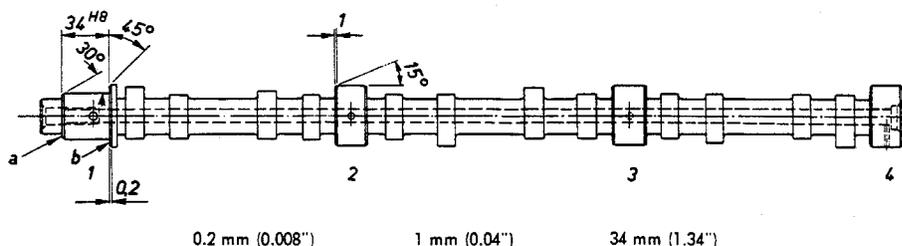

Fig. M 28/00
Before regrinding the camshaft, remove cover plate (2) sealing off the oil passage and pull out oil distributing tube accommodated in the camshaft (see Fig. M 28/01). If one or both centering holes are damaged, which is likely to be the case, regrind them on a center grinding machine or a lathe. Before this is done, check camshaft for concentricity. With shaft supported in end bearings 1 and 4, the max. out of true of center bearings 2 and 3 as well as steering wheel seat must not exceed 0.025 mm (0.001").